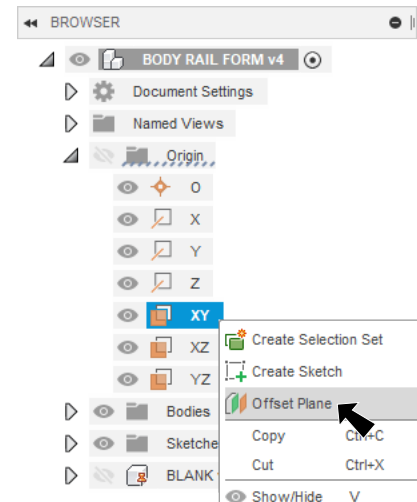

Fig. 15
Step 1. Expand **Origin** in the Browser, right click **XY Plane** and click **Offset Plane**, Fig. 15.